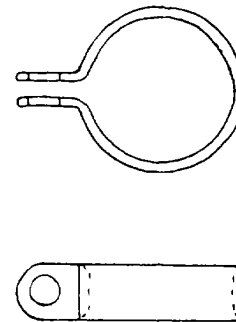

Figure 2-42. Loop-Type Bonding Clamp
(1) **Loop-type bonding clamp.** A plain metal uncushioned clamp, as shown in figure 2-42, which bonds metal tube to the airframe.